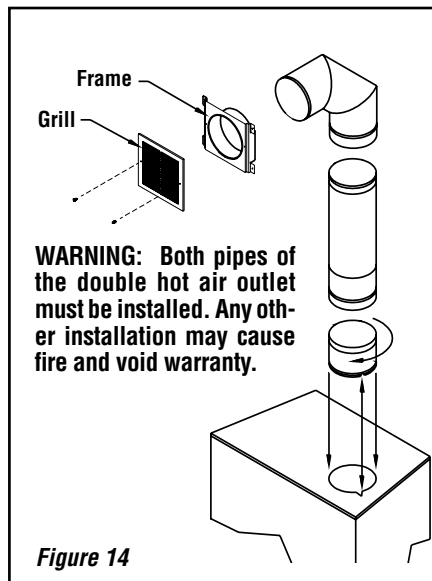

Figure 14
The gravity kit is designed for double hot air outlets and includes: (See **Figures 14 and 15**)
Maximum length See **Figures 14 and 15**
1. Remove the plates closing up the 8" dia. holes on top of the fireplace. Then, cut the insulation in order to obtain two 8" dia. openings. Fix the adaptors on the fireplace openings by turning clockwise (**Figure 14**).